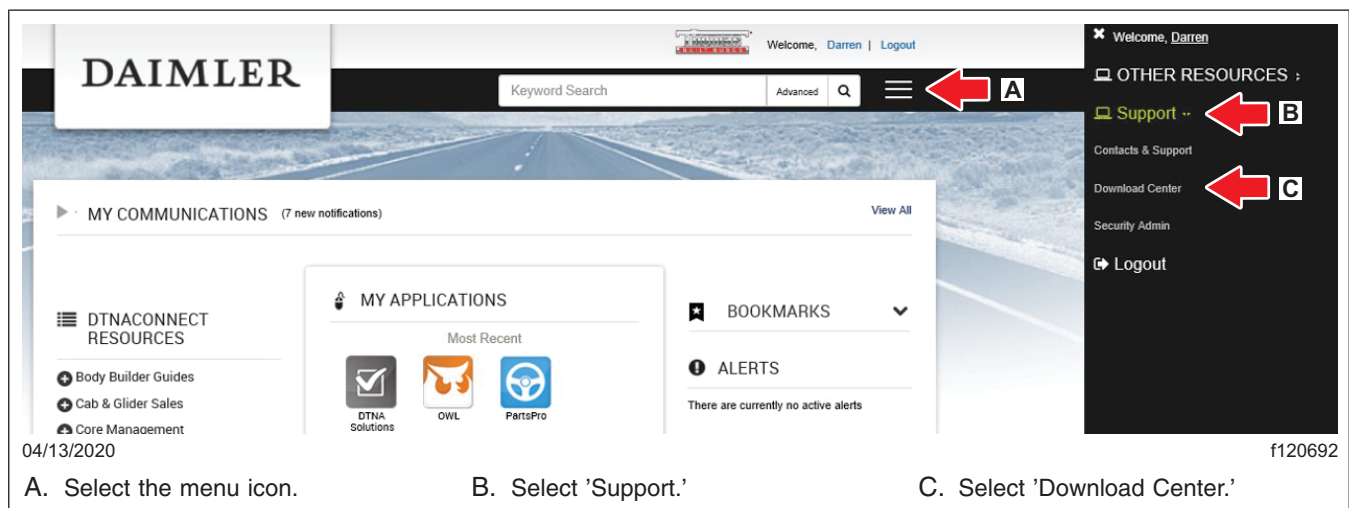
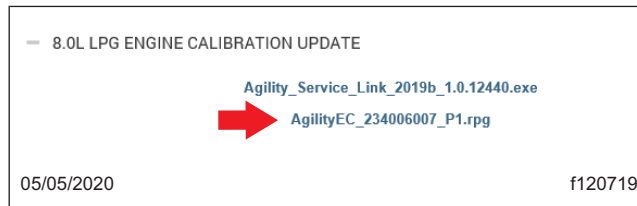

Fig. 1, DTNACconnect Screen
Fig. 15, Engine Calibration Link
4. In the upper right-hand corner, select the menu icon. See Fig. 1, ref. A.
5. Select 'Support,' then select 'Download Center.' See Fig. 1 ref. B and ref. C.
- Go back to www.DTNACoconnect.com and select 'Support,' then select 'Download Center.' See Fig. 1 ref. B and ref. C. Select '8.0L LPG Engine Calibration Update' then select the engine calibration link, shown in Fig. 15.